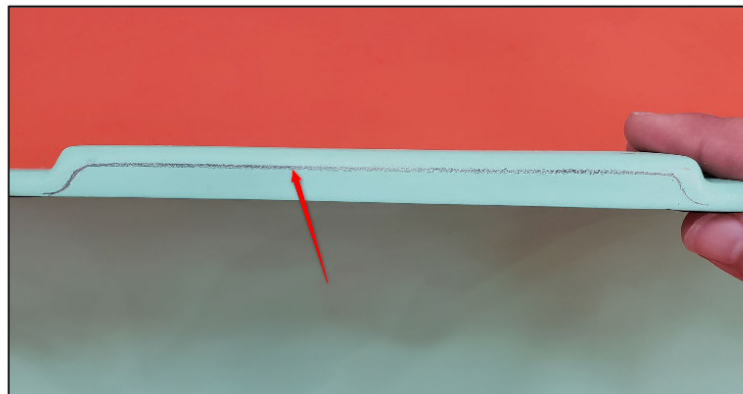

Figure 9: Marked Cover
3. Mark the cover with a pencil or marker as shown in Figure 9.